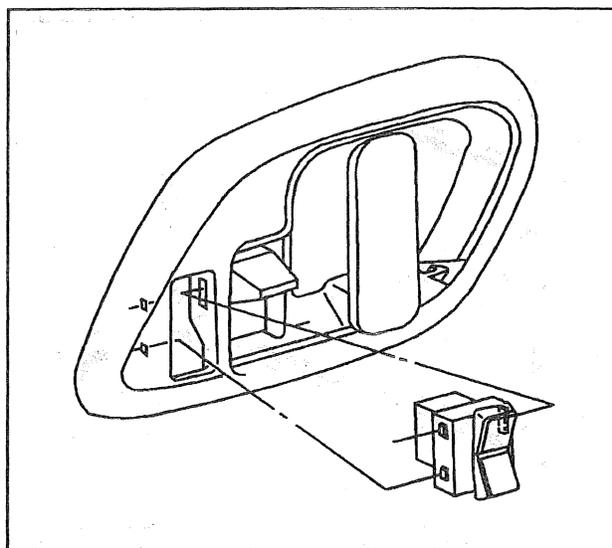

Figure 5—Power Door Lock Switch
### Remove or Disconnect (Figure 5)
3. Power door lock switch (figure 5).
**↔ Install or Connect (Figure 5)**